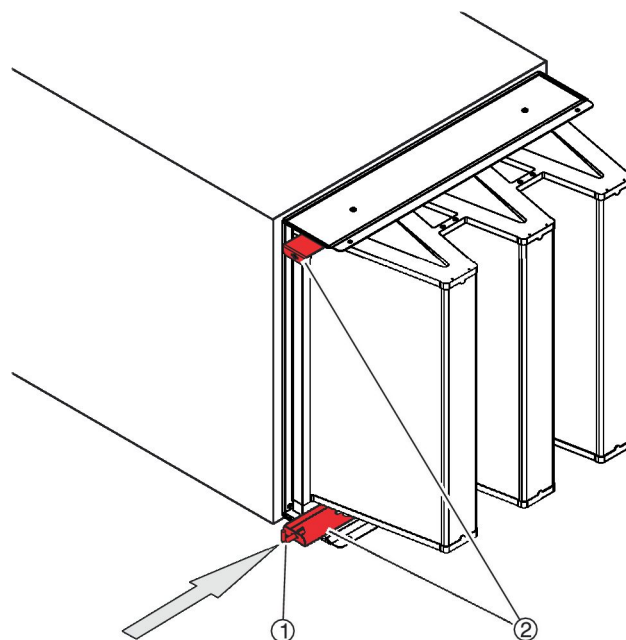

Fig. 65: Pushing the clamping rails in
9. ▶ Use the special key ( Fig. 65 /1) to push the clamping rails ( Fig. 65 /2) in as far as they will go.